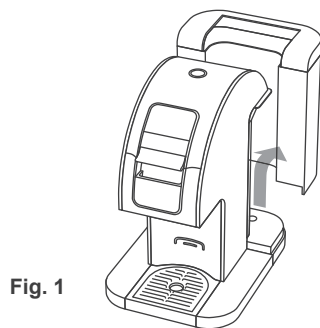

Fig. 1
2. Remove the Water Tank from the brewer (Fig. 1) by Tilting and Lifting away from the brewer. (it may be tight)